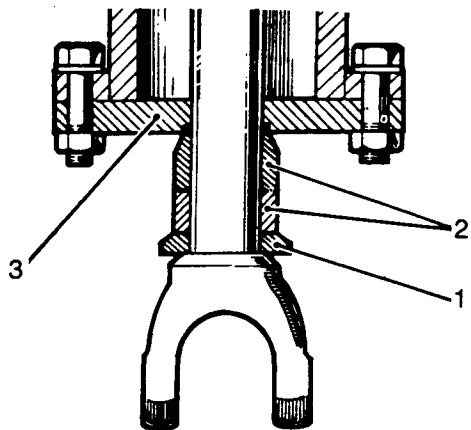

Fig J1.43
- (1) Refer to Fig J1.43. Fit the conical distance piece (1) over the half shaft with the internal chamfer to the radius on the shaft.
- (2) Place the roller race inner member and a new retaining collar (2) over the half shaft with the chamfer towards the splined end.